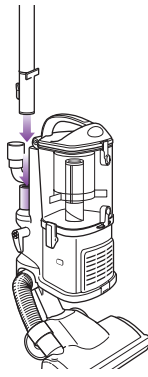

Fig. 8
- 3 Attach the end of the extension wand to the tube on the back of the detachable canister until it clicks into place. **(Fig. 8)**